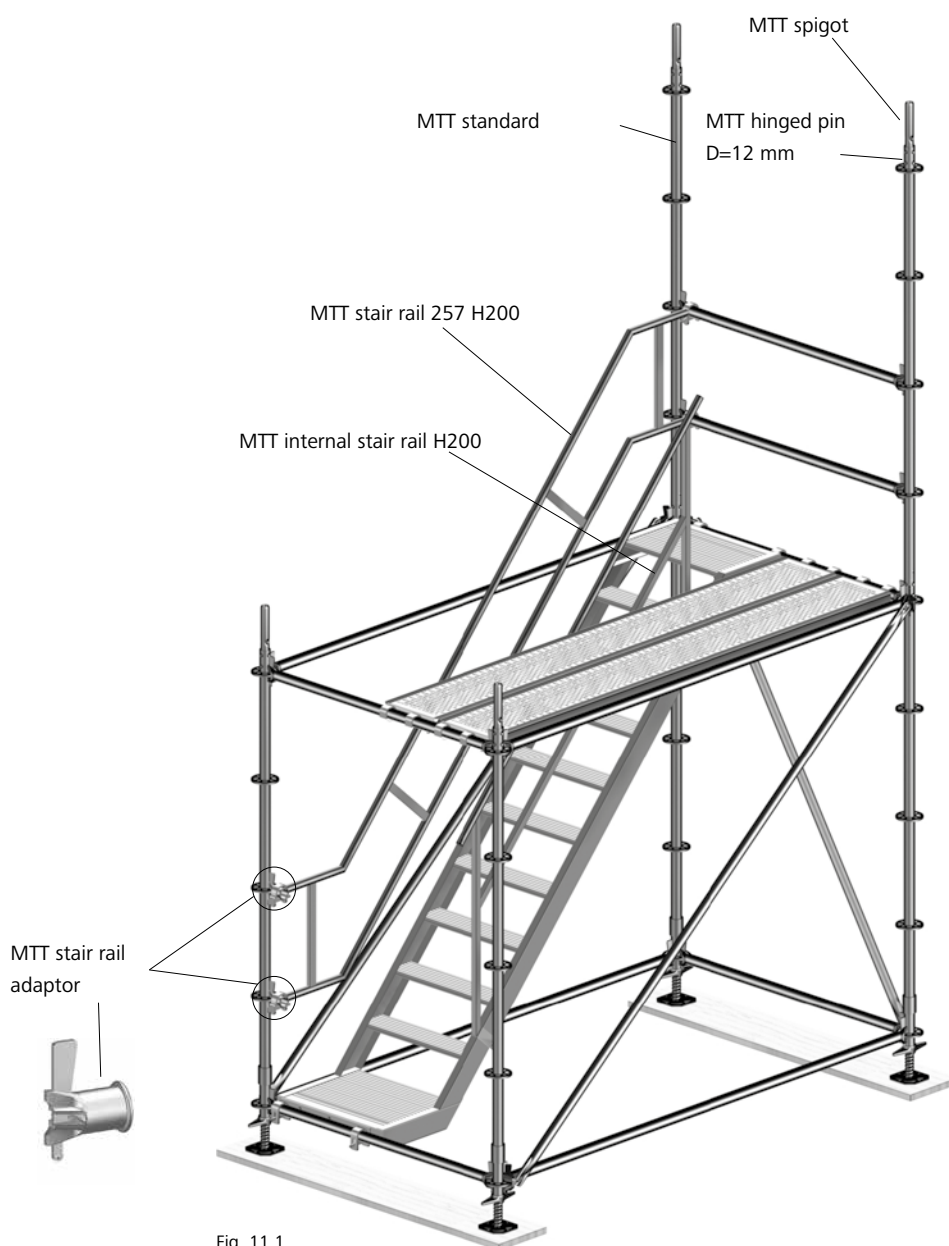

Fig. 11.1
17. Install two MTT stair rail adaptors to the punched discs of the lower MTT standard in order to attach the MTT stair rail on the the outside of the stairs (Fig. 11.1).